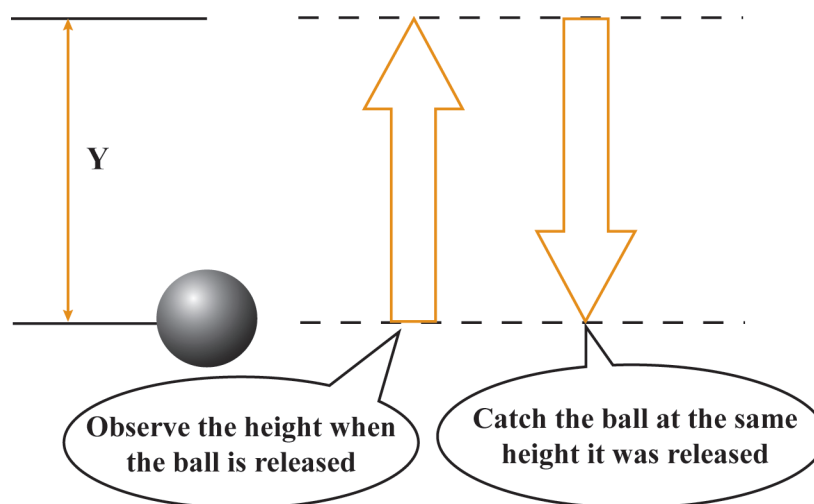

Figure 7
- 1. Have one person throw a ball straight up and catch the ball where it was released. Refer to Figure 7. Try this a few times before proceeding to the next step.